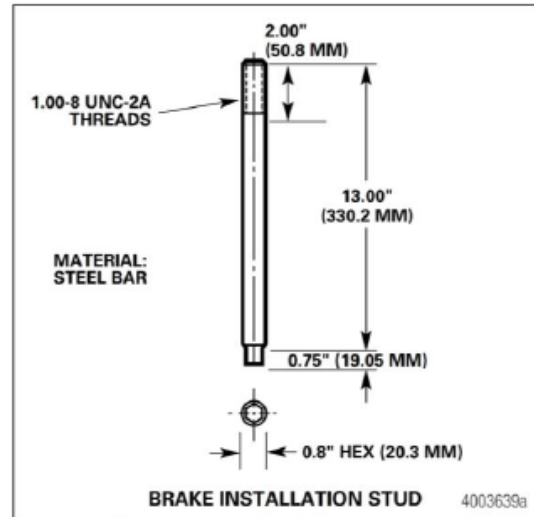

Figure 3.1
2. Remove the two centers O.D. brake mounting fasteners. Replace them with two long brake installation studs. Figure 3.1.